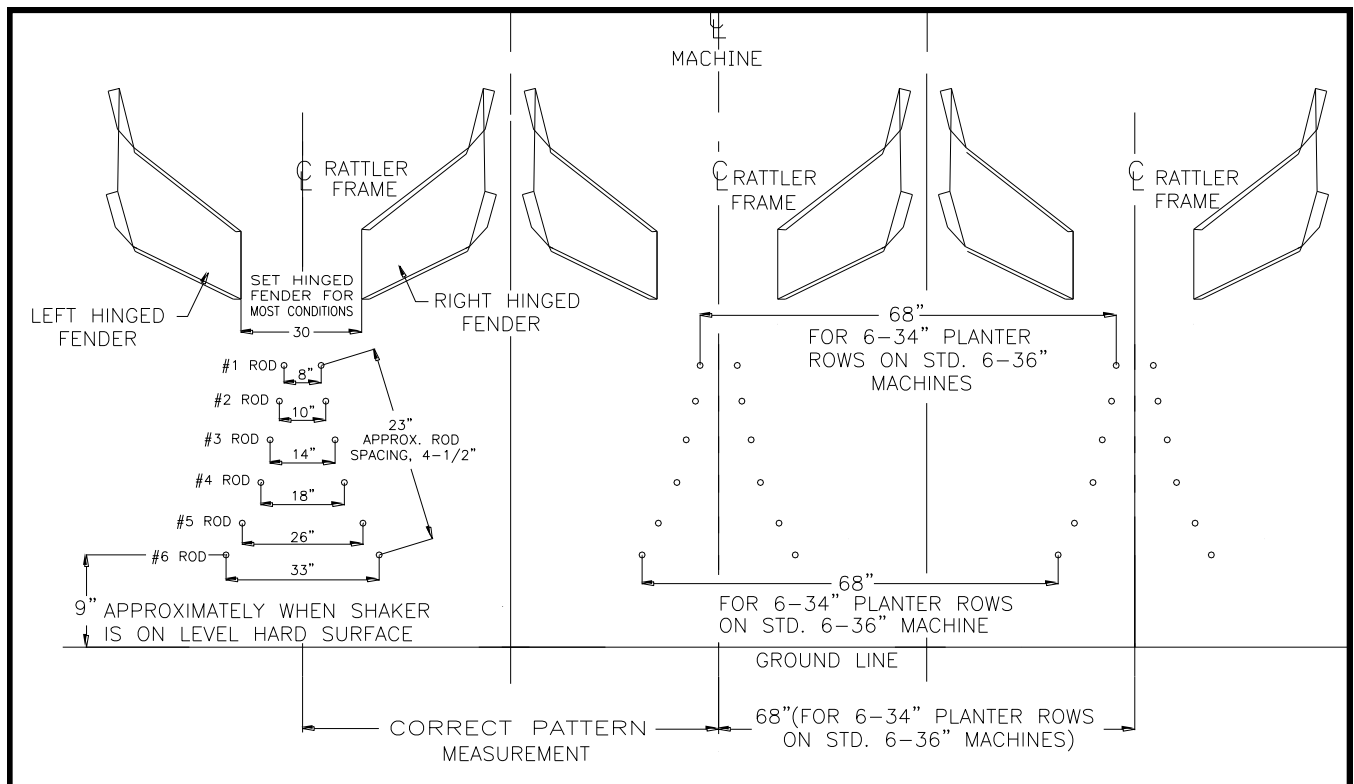

Figure 15C 6-Row Machine
On 6-row machines the vine guide rod patterns need to be centered on the center of the 2-rows that are going up each rattler frame. The 6-row middle vine guide rod pattern will always be centered on the centerline of machine like a 2-row machine. The outside rod patterns Lt and Rt will center up on the rattler frame for 6-36" planted row patterns using a 6-36" machine. A 6-38" planted row pattern will also center up on each rattler frame using a 6-38" machine. However, if the 6-row machine is used to plow up peanuts that are on a modified row pattern or a different row spacing than intended, movement of the outside rod pattern may be required so that the windrows are piled in the proper position on the ground. Set the middle vine guide rod pattern as shown in figure 3 (on page 5) on the center of the machine. To locate the proper position of the rod patterns Lt. and Rt. of the patterns, measure from each rod (#1 thru #6) Lt. and Rt. the correct amount. This correct measurement is the distance from the centerline of the 6-row planted pattern to the center between the (2) outside rows that will be going up the outside conveyer. On a standard 6-36" planted row pattern using a standard 6-36" machine this distance is 72". On 6-34" planted row pattern this distance is 68". On 6-38" planted row pattern this distance is 76". Therefore, the distance from the #1 Lt. Rod in the middle row pattern to the #1 rod in the Lt. and Rt. Vine guide patterns will be this distance as discussed above. All other rods (#2 thru #6) need to be set this distance Lt. and Rt. from each rod in the middle pattern of vine guide rods. (See Figure 15C)